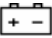

**Figure 5 - Connecting AC Adapter to Meter**
2. Connect the AC adapter connector into the right side panel of the instrument. See Figure 5 below.